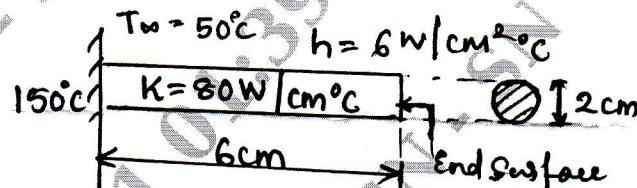

Fig Q9(b)
b. Determine the temperature distribution in one dimensional fin shown in Fig Q9(b).